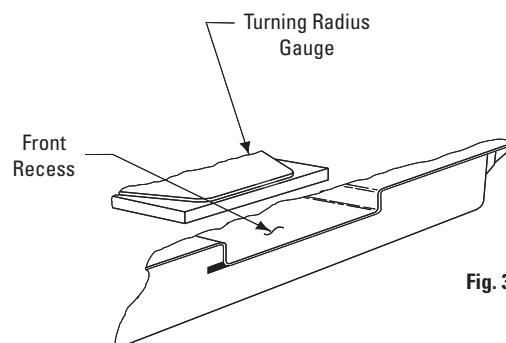

Fig. 38
- Place the turning radius gauges in the recesses of both runways with the pointer and lock pin to the outside of lift, Fig. 38. Position each gauge against the rear guide bars. Then position the front guide bar just against the front edge of the turning radius gauge. Repeat on other runway. (A tolerance of 1/16" (1.6mm), end-to-end, is acceptable). Tighten the mounting bolts securely. The turning radius gauges are now square and in proper alignment with each other.